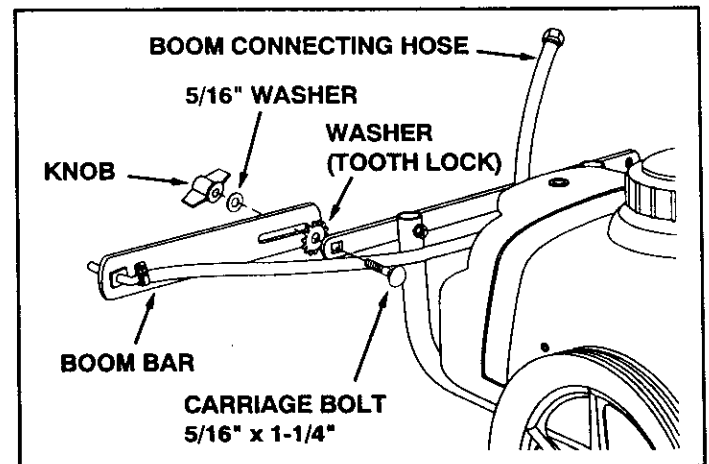

FIGURE 7
- Assemble the boom bars to the boom mount bracket using two 5/16" x 1-1/4" carriage bolts, tooth lock washers (between the bar and bracket), 5/16" flat washers and knobs. The boom connecting hose should extend upward. See figure 7.